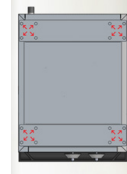
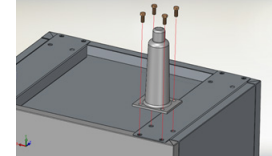

Fig.1
Fig.2
5. Remove cast iron grate and burners from the unit. Turn the unit upside down and locate the leg plate to align screws (Fig.1). Attach each leg to plate with four screws and tighten (Fig.2). Once all legs are attached, turn the unit right side up, and reinstall burners and grates.